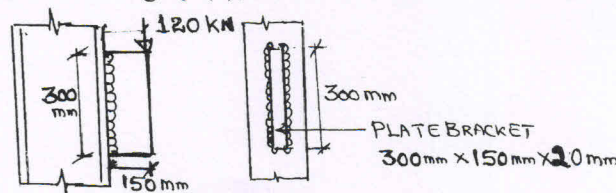

Fig.Q3(c)
- c. For the plate bracket shown in Fig.Q3(c), determine the size of weld. (08 Marks)